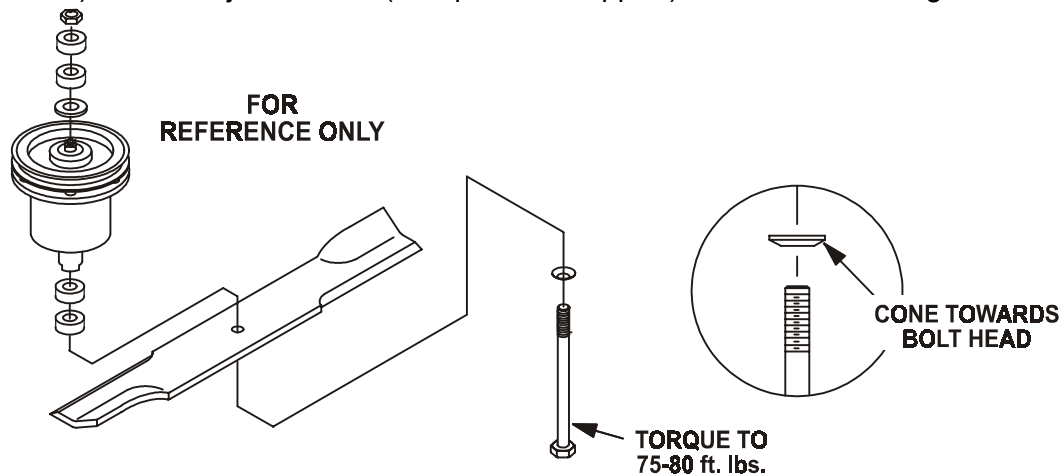

FIG. 14
- g) Re-install the blades (if they were removed) and torque blade bolts to 75-80 ft/lbs. Be sure the spring disc washer cone is installed toward the bolt head (See Figure 14).